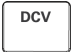

Figure 2-1 ACV terminal connection and display
- 2 Connect the red and black test leads to the respective input terminals as shown in Figure 2-1.